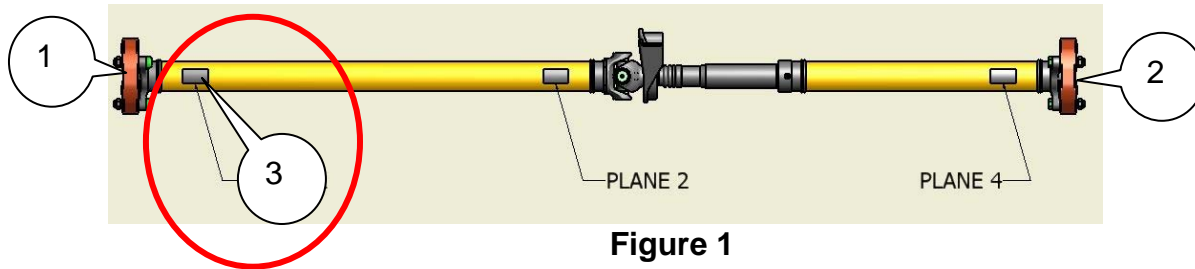

Figure 1
2. Inspect the propeller shaft for the presence of a spot welded balance weight at "Plane # 1", (Fig 1).